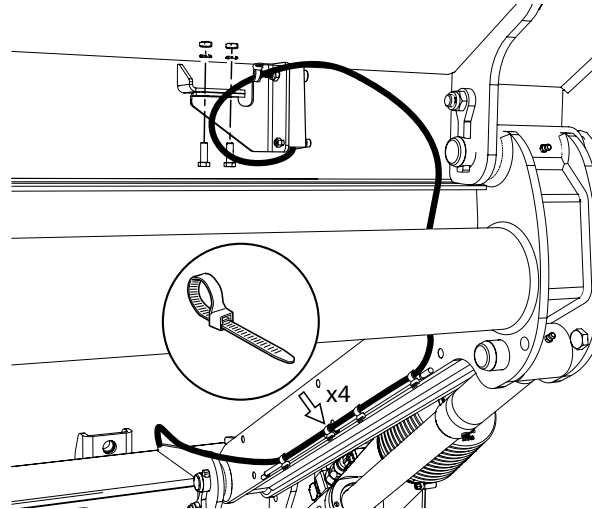

Figure 57. Installing the angle sensor
1. Install the angle sensor on the platform using the nuts, bolts and washers supplied and attach the cable using cable tie; see Figure 57